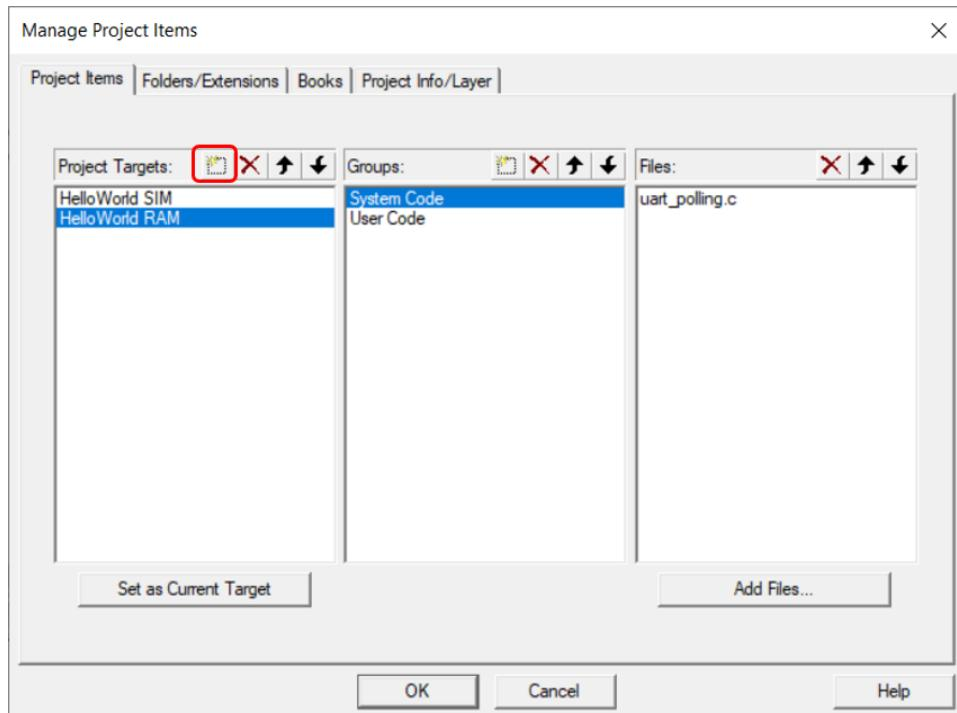

Figure 7.26: Keil IDE: Manage Project Items Window.
2. Press the New icon to create a new target and name it "HelloWorld RAM" (see Figure 7.26). The new target duplicates the HelloWorld SIM target configuration.